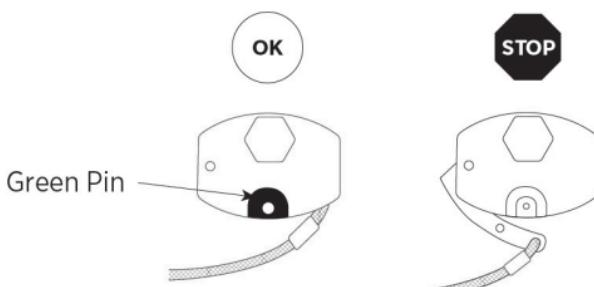

FIGURE 4 MD3072 E1 - INFLATOR STATUS CHECK
3. Make sure the manual lever is in the ready position and the green indicator pin is in place (MD3072 E1 see Fig. 4 and 4A for MD3810 E1).